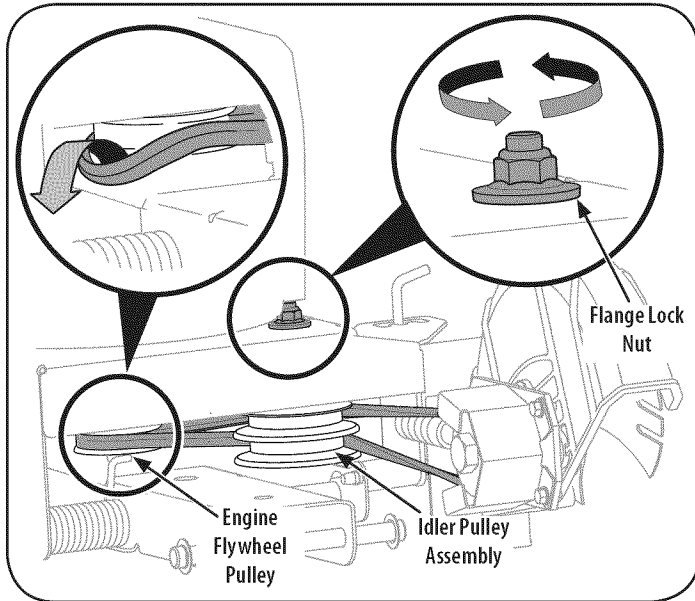

Figure 20
NOTE: To aid in reassembly, note the orientation of the drive belt on the two idler pulleys and the engine flywheel pulley prior to performing the following steps. Refer to Figure 20.
1. Working in front of the edger, loosen the flange lock nut on top of frame, allowing the idler pulley assembly to pivot slightly out from the frame. See Figure 20.
2. With your other hand, carefully reach under the rear of the edger and remove the belt from around the engine flywheel pulley. See Figure 20.